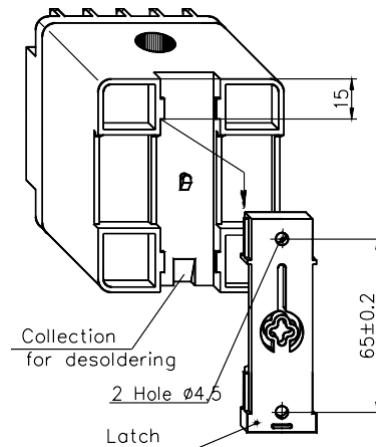

Figure C.2 Mounting on the panel
- fix a latch on the panel using two screws (4mm diameter) according to figure C.2;